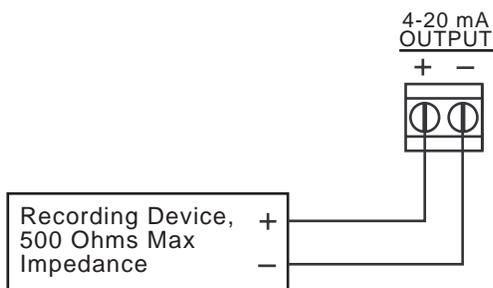

Figure 9: Recorder Output Wiring
6. Connect the leads from the recording device to the analog output terminal strip as shown in Figure 9 below.